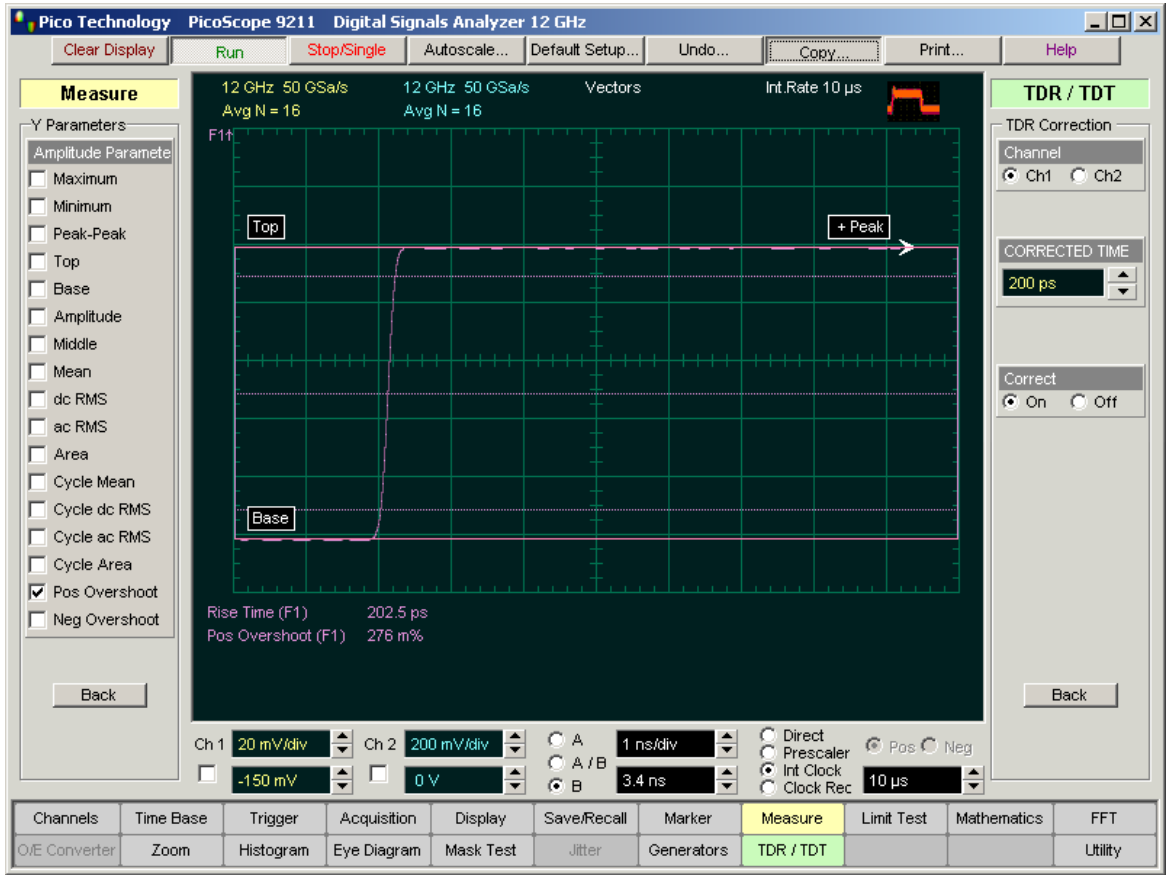

Figure 3
15. Set the **CORRECTED TIME** to 200 ps. See Figure 3.